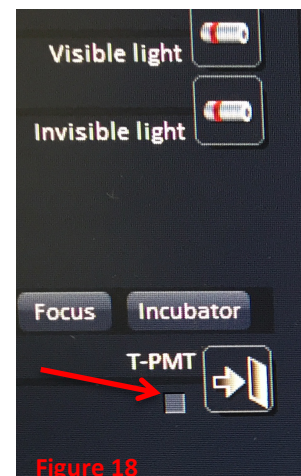

Figure 18
2. Once you chose your configuration, you may choose to turn on the transmitted light detector. At the bottom of the Imaging Setup window, toggle the box next to T-PMT (figure 18). You must turn it on with a visible light channel — it won't work with the 405 nm laser. Note: if you are collecting transmitted light images, there are ways to optimize the images that are not part of the initial confocal training. See Kristi for more details, as the directions are not yet in this manual.